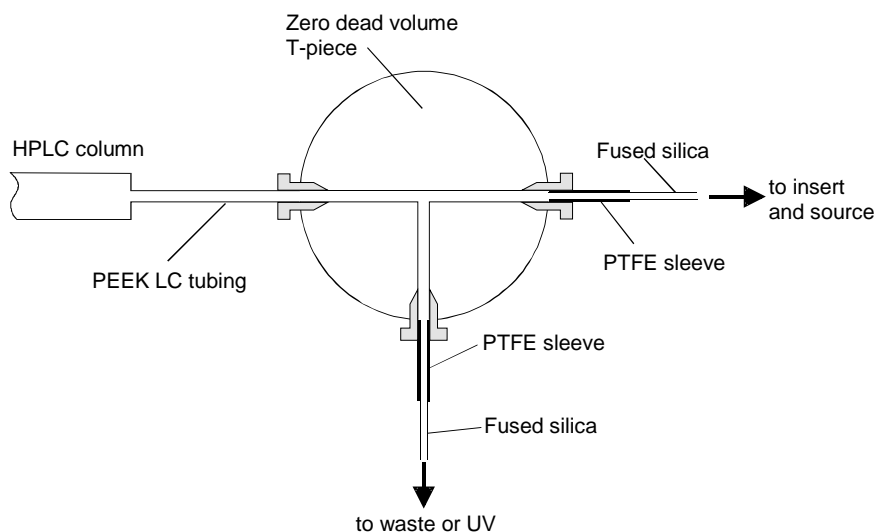

Figure 3-7. Schematic of a split
A simple and effective way to make a post-column split for use with the Finnigan AQA is shown in Figure 3-7.
4. Connect the split as shown in Figure 3-7.
2. Connect the split to the insert and LC pump as shown in Figure 3-7.